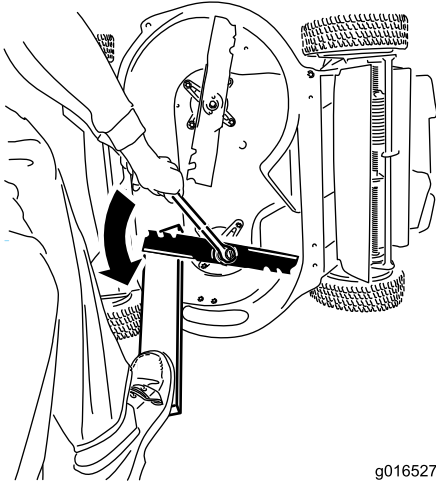

Figure 44
1. Use a block of wood to hold each blade steady and turn the blade bolt counterclockwise as shown in Figure 44.